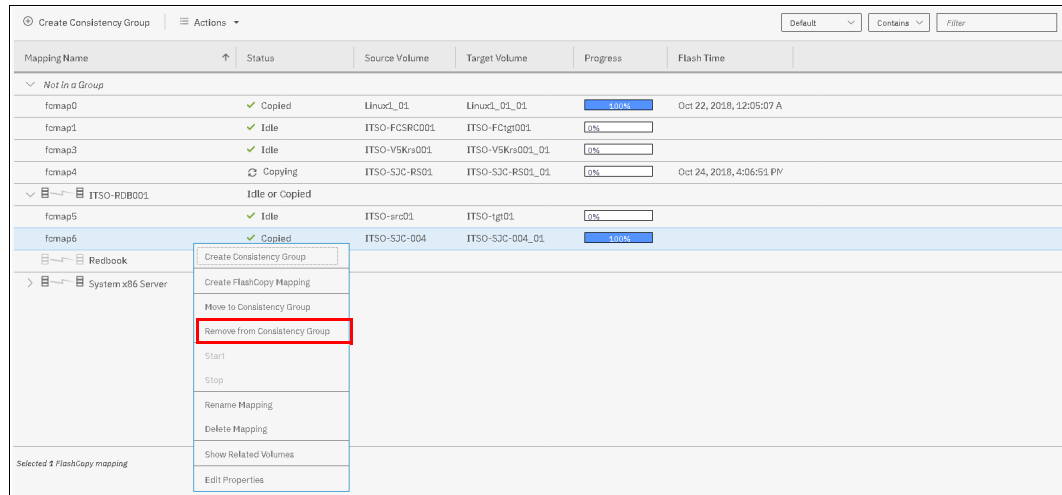

Figure 10-46 Remove from Consistency Group action
- Right-click the FlashCopy relationship mapping to be removed, as shown in Figure 10-46 on page 513.